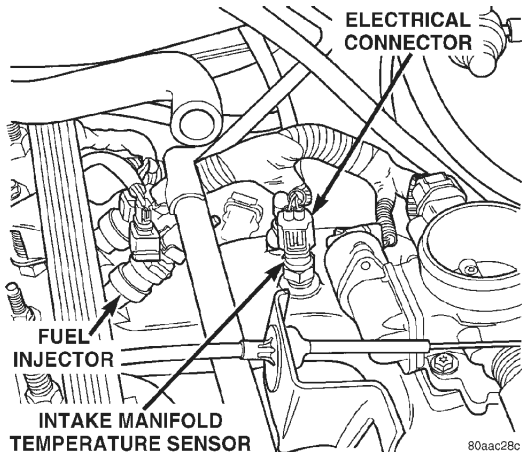
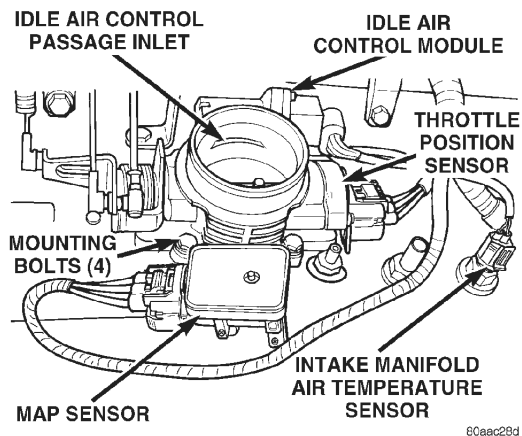
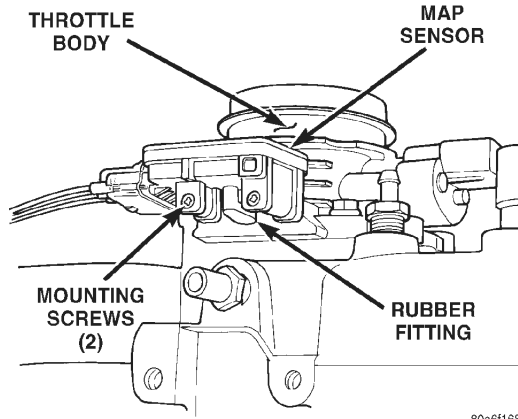

Fig. 19 Intake Manifold Air Temp. Sensor Location—2.5L Engine
Fig. 20 Sensor Locations—4.0L Engine
Fig. 21 Rubber L-Shaped Fitting—MAP Sensor-to-Throttle Body
(13) Inspect air cleaner inlet and air cleaner element for dirt or restrictions.
(14) Inspect radiator grille area, radiator fins and air conditioning condenser for restrictions.
(15) Verify intake manifold air temperature sensor wire connector is firmly connected to harness connector (Fig. 19) or (Fig. 20).
(16) Verify MAP sensor electrical connector is firmly connected to MAP sensor (Fig. 20). Also verify rubber L-shaped fitting from MAP sensor to throttle body is firmly connected (Fig. 21).
(17) Verify that fuel injector wire harness connectors are firmly connected to injectors in the correct order. Each harness connector is numerically tagged with injector number (INJ 1, INJ 2 etc.) of its corresponding fuel injector and cylinder number.
(18) Verify harness connectors are firmly connected to Idle Air Control (IAC) motor and Throttle Position Sensor (TPS) (Fig. 20).